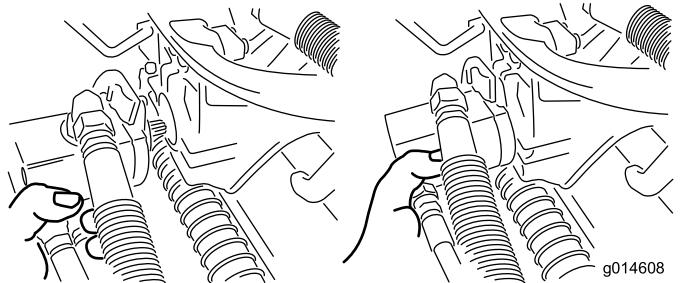

Figure 50
- 3. Move the motor to the storage location on the front of the suspension arm (Figure 50).